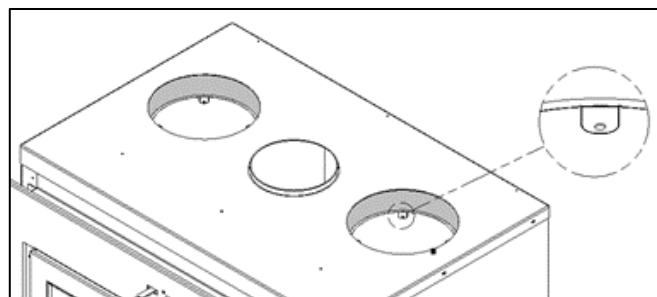

Figure 3-19: Tabs Inside the 8 Inch Knockouts
9. Bend the tabs inside the 8 inch knockouts (Figure 3-19) upwards.